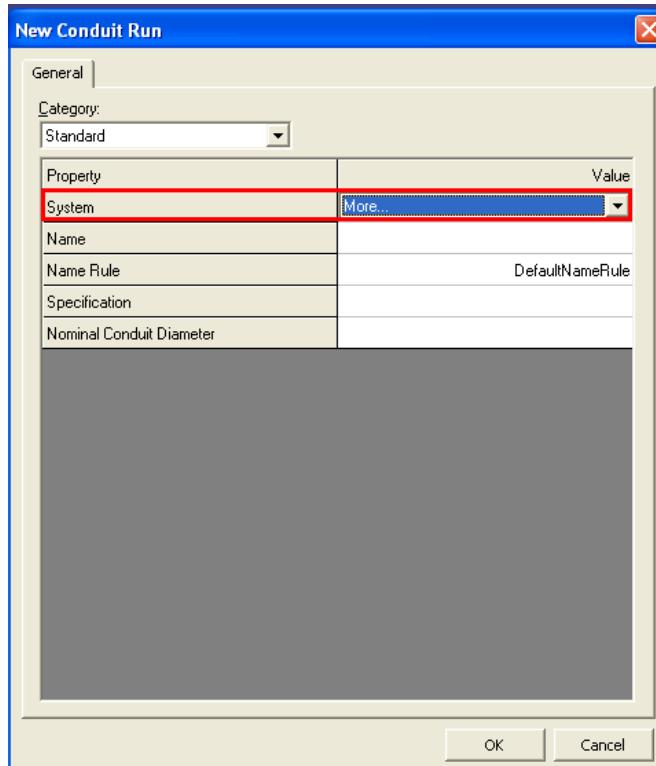

Figure 4: New Conduit Run Dialog Box
5. The **New Conduit Run** dialog box appears. Select the **More...** option on the **System** property option, as shown in Figure 4.